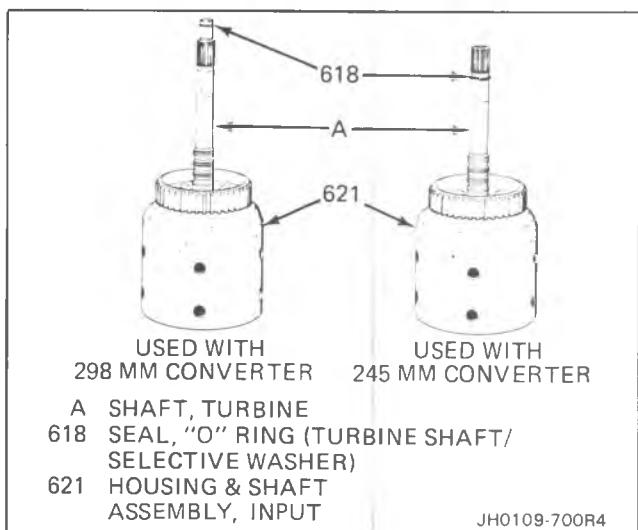

Figure 172 Turbine Shaft "O" Ring Seal
**Assemble (Figure 172)**
1. "O" ring seal (618) into the groove in the end of the turbine shaft.